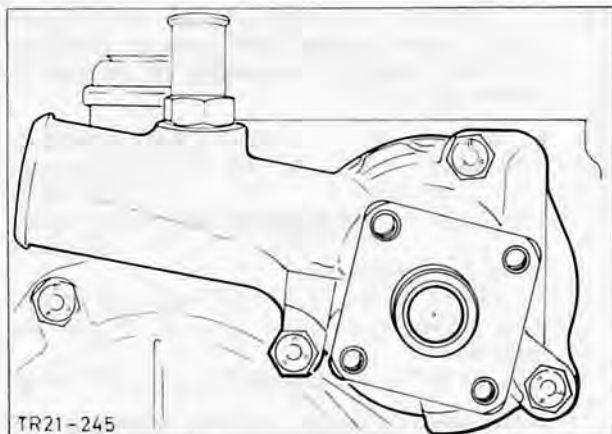

Fig. 65. Install water pump
58. Fit water pump with gasket, Fig. 65, only tighten bolt of alternator bracket finger-tight.